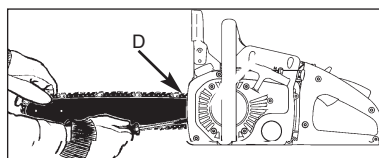

Abb. 5
1. Hold nose of guide bar up and turn adjustment screw (D) CLOCKWISE to increase chain tension. Turning screw COUNTERCLOCKWISE will decrease amount of tension on chain. Ensure the chain fits snugly all the way around the guide bar (Fig. 5).